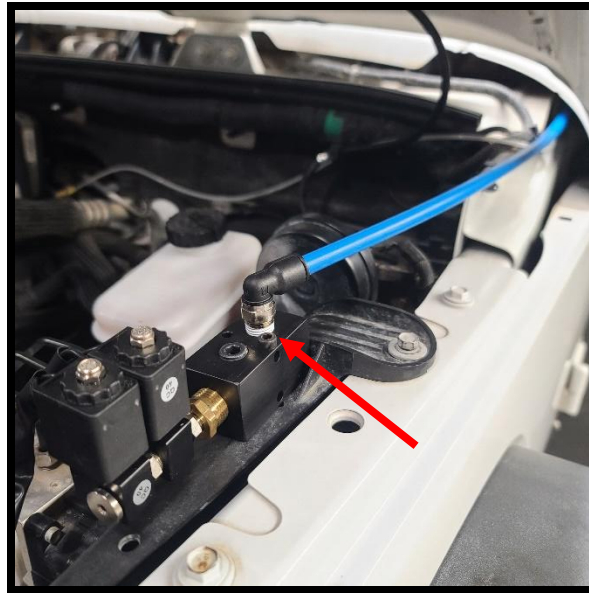

Figure 12
- 3-B) Install the air locker manifold assembly (from **Step 1-C**) as shown in **Figure 12**. Install in the factory hole using the provided M5x40mm socket head bolt / nut and tighten in place. Reinstall all three (3) bolts / nut removed in **Step 3-A** and tighten.